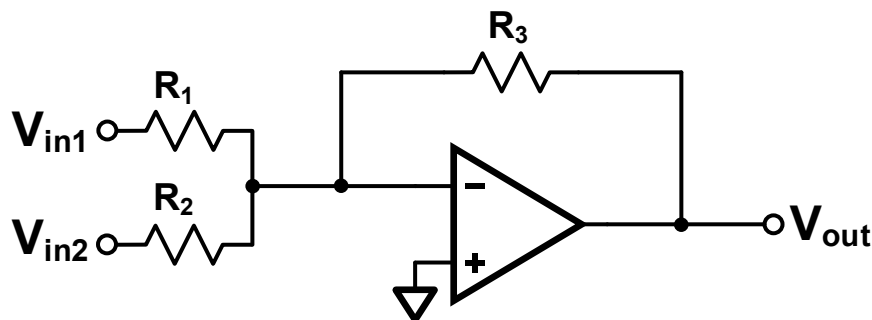

Figure 4-2 An opamp based adder
For multiple frequency tones, multiple filters, centred at different frequencies, can be used. Filter outputs can be added using an inverting adder shown in Figure 4-2.
- The gain of the bandpass filter at center frequency should be unity. If not then adjust the value of  $R_{11}$ . Alternatively, the gain can be changed by selecting proper values of values of R1, R2 and R3 in the adder (Figure 4-2).